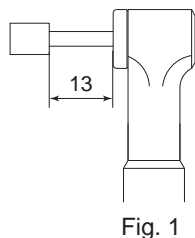

Fig. 1
- ④ Do not touch the cutting tool while it is rotating. It is very dangerous.
- ⑤ Wear safety glasses, dust mask, and use a protective cover around the Attachment whenever the Attachment is rotating.
- ⑥ When installing a cutting tool, tighten the collet correctly and check again the collet before use. Do not over-tighten the collet. This may cause damage to the spindle.
- ⑦ Do not use grindstones with an outside diameter over $\phi 40\text{mm}$.
- ⑧ Do not exceed 13mm of overhang for mounted grindstones as shown in Fig. 1. If the overhang must exceed 13mm, reduce the motor speed in accordance with Table 1.
- ⑨ Do not use bent, broken, chipped, out of round or sub-standard cutting tools as they may cause shatter or explode.